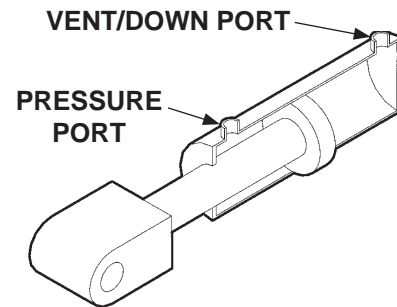

FIG. 49-1
5. Check the hydraulic cylinder. With the platform on the ground, remove the breather plug or vent line from the vent/down port of the cylinder (**FIG. 49-1**). Raise the platform even with the bed. Allow pump motor to run two seconds more while you watch for hydraulic fluid at the vent/down port. A few drops of hydraulic fluid escaping the vent/down port is normal; however, if it streams from the vent/down port, piston seals are worn. Replace seals.